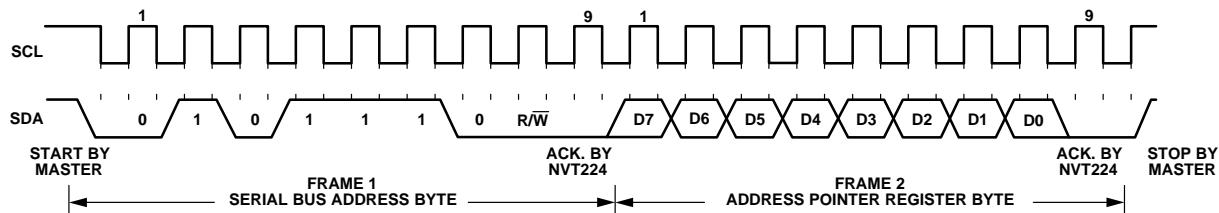

Figure 14. Writing to the Address Pointer Register Only
- If the NVT224 address pointer register value is unknown or not the desired value, it must first be set to the correct value before data can be read from the desired data register. This is done by performing a write to the NVT224 as before, but only the data byte containing the register address is sent, because no data is written to the register see Figure 14.